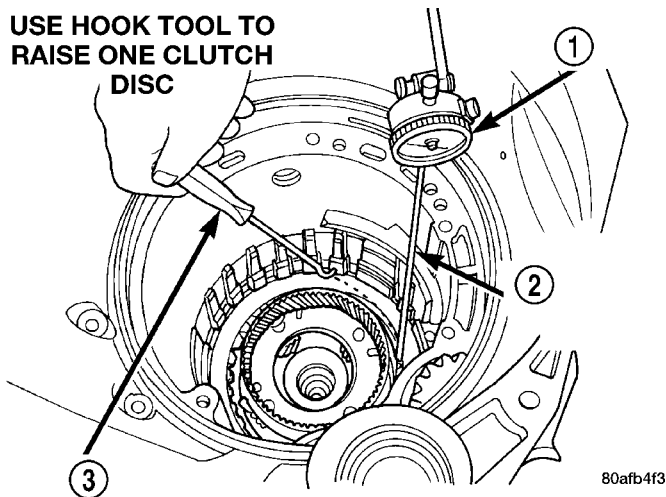

Fig. 129 Check Low/Reverse Clutch Clearance
(43) Set up dial indicator as shown in (Fig. 129) to measure low/reverse clutch clearance. Press down on clutch pack with finger and zero dial indicator. **Low/Reverse clutch pack clearance is 0.89-1.47 mm (0.035-0.058 in.).** Set up indicator and record measurement in four (4) places. Take average of readings and select the proper low/reverse reaction plate to achieve specifications.